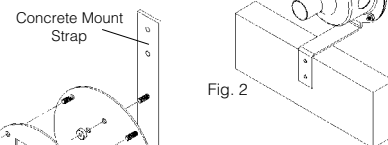

Fig. 2
- Attach the assembly by nailing or screwing to blocking (by others) as shown in Fig.2. The front of the backbox should measure 1/2" out from the face of the blocking.